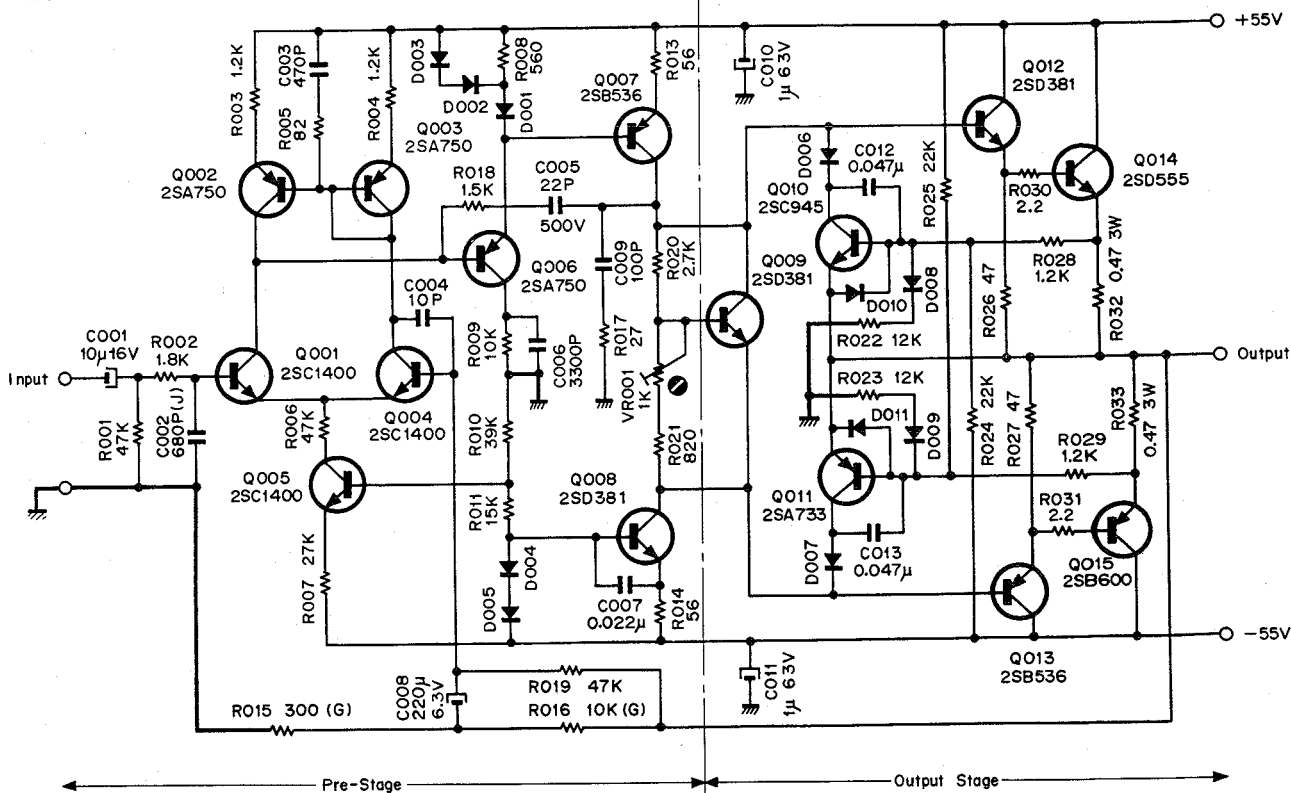
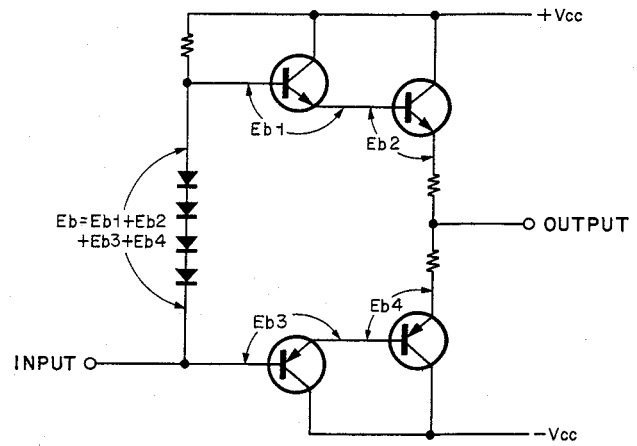

Fig. 2.5.8 Power Amplifier
Fig. 2.5.9 Conventional Circuit
Refer to Fig. 2.5.8.
Especially for a class B push-pull amplifier, distortion cannot be reduced unless the positive and negative signal amplifiers are well balanced. The amplifier in the N-730, however, is best balanced thanks to the vertically and horizontally symmetric configuration as shown in Fig. 2.5.8. This circuit allows distortion of only 0.1% at 1 kHz 105 watts output even without NFB. This degree of distortion is low enough to make the amplifier used as a high-fidelity unit even if it is given no NFB.
Fig. 2.5.9 shows that a change in current flowing across the diode varies the terminal voltage and that E_B changes with signal current. These changes result in the generation of distortion. It is a matter of course that signal current flowing across the diode will produce distortion. See Fig. 2.5.8. Transistor Q009 that generates bias voltage form an emitter-follower circuit of class A operation. Thus this circuit does not induce distorted signals.
For an ordinary class B amplifier, crossover distortion is reduced by increasing idling current thus overlapping the operating ranges of the positive and negative transistors. The overlap portion acts as a class A amplifier. Generally, the degree of amplification decreases where a change takes place from class A to B and no linear curve is obtained as shown a thick continuous line in Fig. 2.5.10 (A). However, if the circuit shown in Fig. 2.5.8 is current-driven, a linear curve can be obtained at the point of change from class A to B as shown in Fig. 2.5.10 (B).